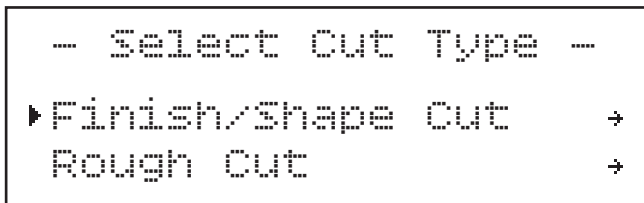

Figure 69. Select Cut Type submenu.
2. Press spindle speed dial to enter Select Cut Type submenu (see **Figure 69**).